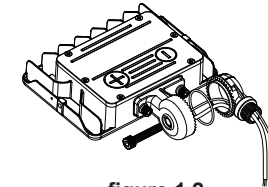

figure 1.2
- Step 3: Pass the wires through from the other bracket and rubber, fix it with screws.(Watch out not to scratch the wire); (figure 1.2)